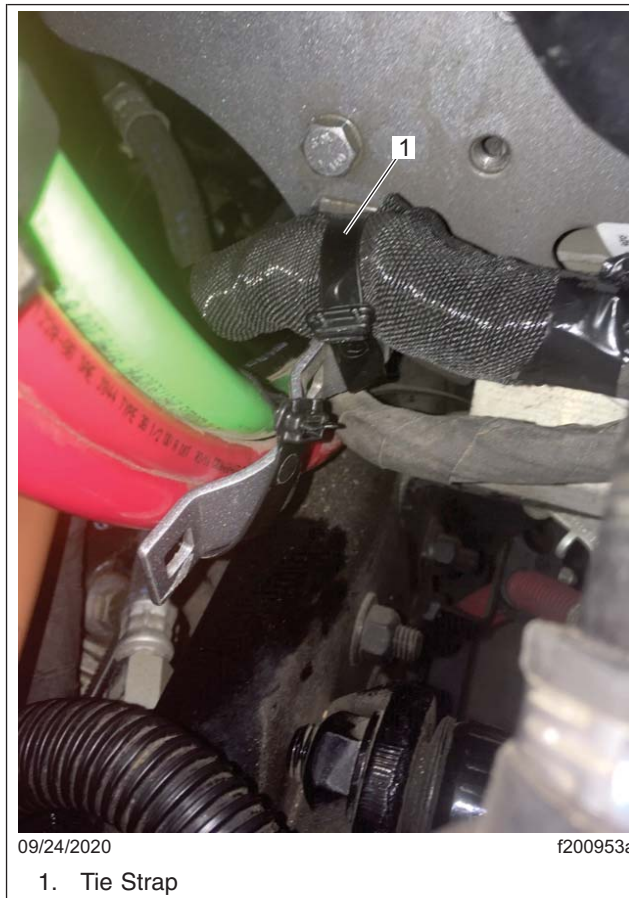

Fig. 28, Securing the Harness using Tie Strap
17. Install and secure the 5.9 inches (150 mm) of TwistTube to the engine harness at the clipping point of the cab frontwall mounted bracket and on the innermost edge of the left frontwall and secure the harness to the bracket using tie straps. See Fig. 28.